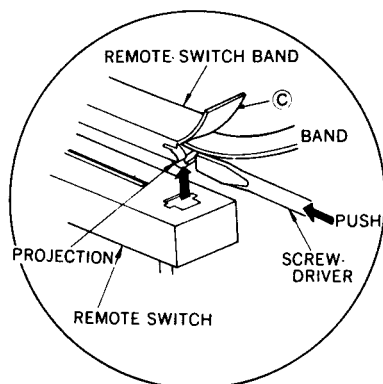

Fig. 3
1. Use a small screwdriver to push the projection of the remote-switch bands in the direction shown by the arrow in figure 3, and remove them from the remote switch.
Note: When removing the remote-switch bands, be careful not to pull the bands nor to hold them as shown in (C) of figure 3, because to do so may result in damage. Also be careful not to bend or twist the bands excessively.